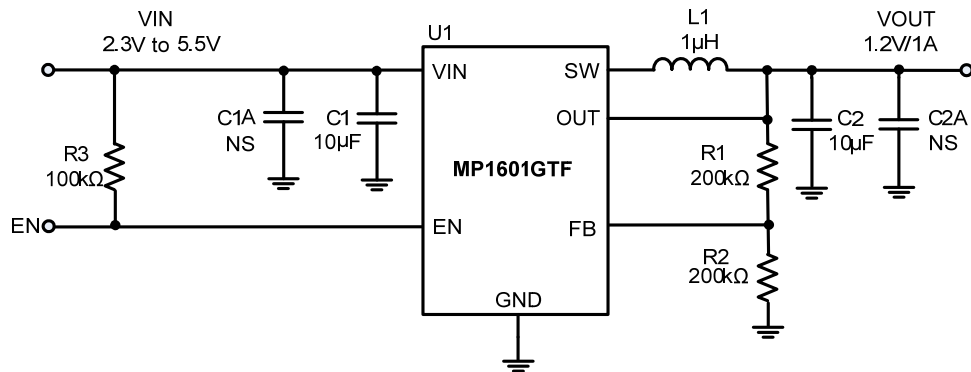

Figure 12: Typical Application Circuit for the MP1601GTF
The external resistor divider sets the output voltage (see the Typical Application Circuit on Figure 12). Select the feedback resistor (R1), typically between 40kΩ to 200kΩ, to reduce the V_{OUT} leakage current. There is no strict requirement on the feedback resistor. R1 > 10kΩ is reasonable for most applications. Calculate R2 with Equation (2):